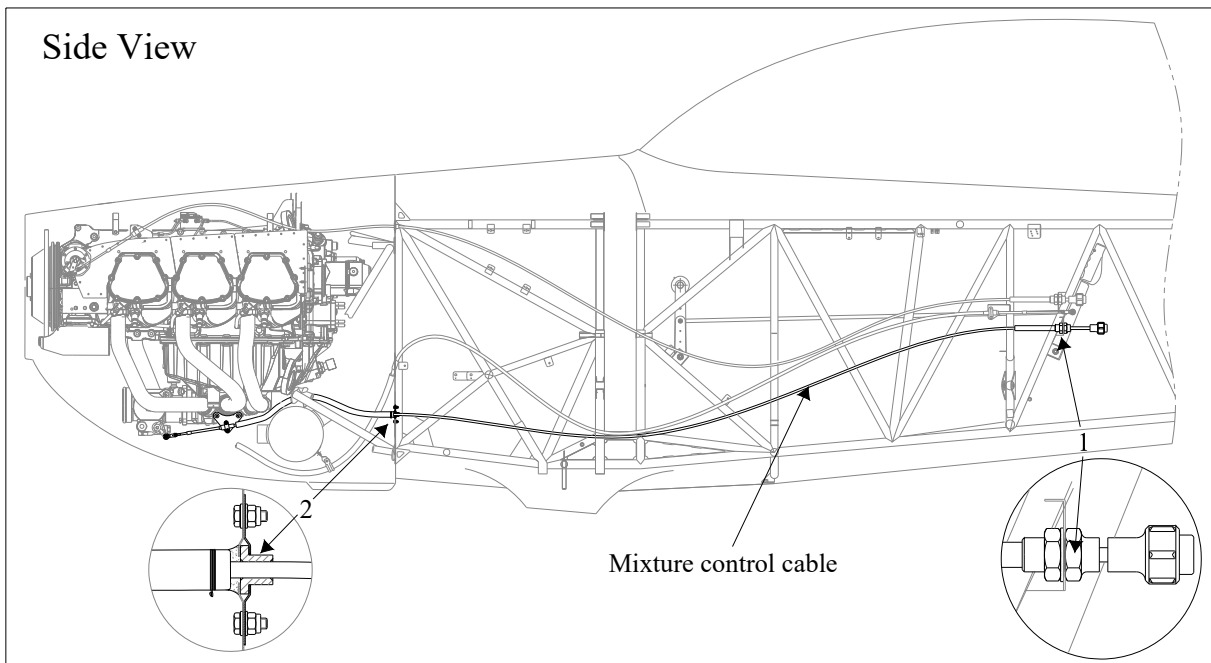

Figure 5
Refer to Figure 5. The mixture of the fuel injector servo is controlled by means of the vernier mixture control cable located on the left side of the cockpit (red control knob). This cable is routed on the left side of the fuselage, penetrates the firewall and is then routed to the mixture control lever. In the engine compartment this cable is covered with a fire sleeve. The cable is attached to the fuselage using a clamp block at its front end and self-clinching plastic tiedown straps in the cabin area. The mixture vernier control unit is mounted to a fuselage bracket. The fire wall penetration is sealed with firewall sealant (see Chapter 51-30-04) and covered with a clamp sheet.
- 6 Loosen counter nut and remove the rod end (2) from the mixture control cable.
- 8 Remove clamp block (1) attachment bolt.
- 9 Remove clamp block (1) from the vernier mixture control cable.
- 11 Remove 2 bolts of the clamp sheet attachment positioned at the firewall break through (2, Figure 5). Remove firewall sealing and disconnect clamp sheet and contained plastic guidance from the rear side of the firewall.
- 13 Remove attachment nut and washer of the mixture control unit (1, Figure 5).